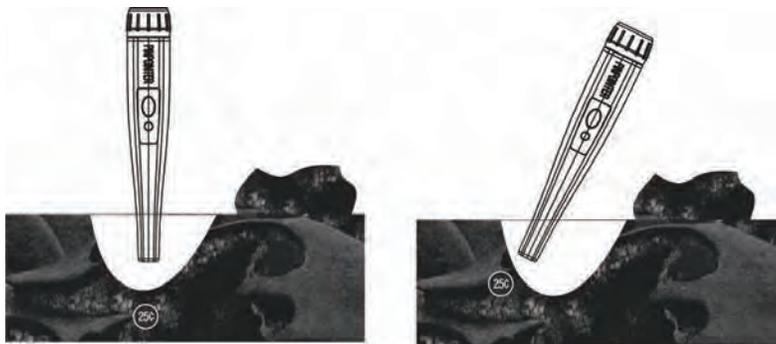

Fig. 6
3.If the pinpointer won't send out the warning signal you should scan the hole dug out. Please scan the bottom and surround of the hole with the front-end of the pinpointer slowly to determine the position of the target object, and dig again (see Figure.6).